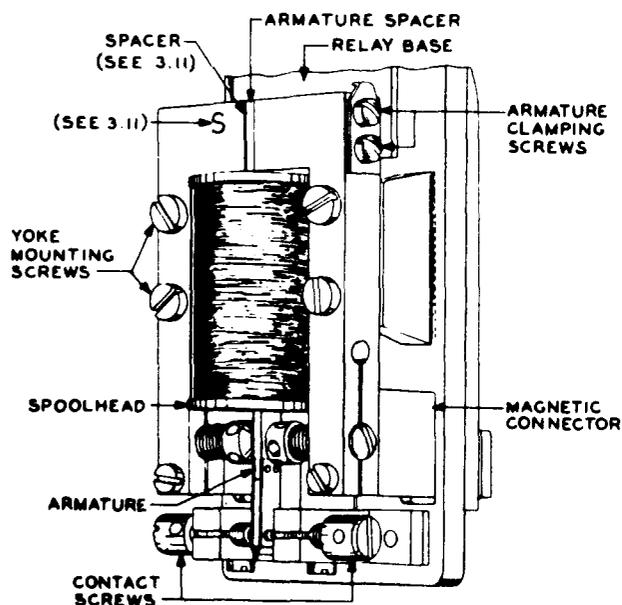

Fig. 7 - Designation of Parts
3.11 *Spacer to Compensate for Unbalanced Magnetic Circuit:* (Reqt 2.11) — All relays equipped with spacer P-235626 shall have the letter "S" rubber stamped in 3/8-inch characters red (Fig. 7) on the left-hand pole piece adjacent to the spacer and positioned so that it can be read from the front of the relay. Use R-1802 stamp and R-2883 vermilion ink. (See Fig. 7.)